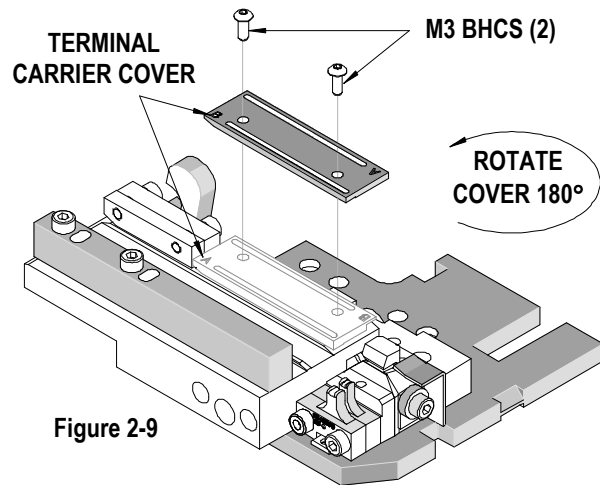

Figure 2-9
5. Using a 2mm hex wrench, remove the (2) M3 BHCS holding the carrier cover to the track. See Figure 2-9.